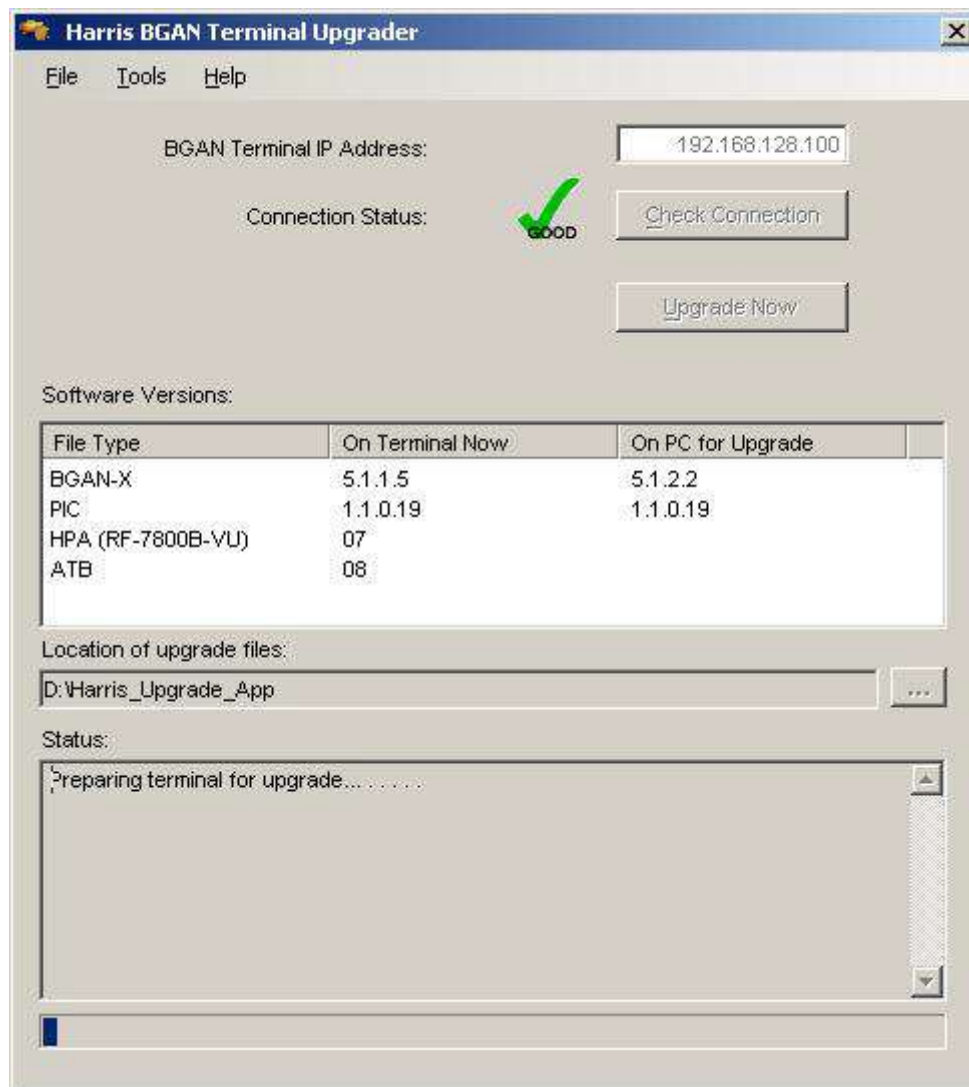

Figure 4-15. BGAN Terminal Upgrader
- b. Launch the Harris BGAN Upgrader application by double clicking **HarrisBGANUpgrader.exe**. The Harris Upgrader application should automatically establish communication with the BGAN Terminal and display the currently installed version. See Figure 4-15. If there was a communication issue, check the connections and then click the **Check Connection** button to retry.